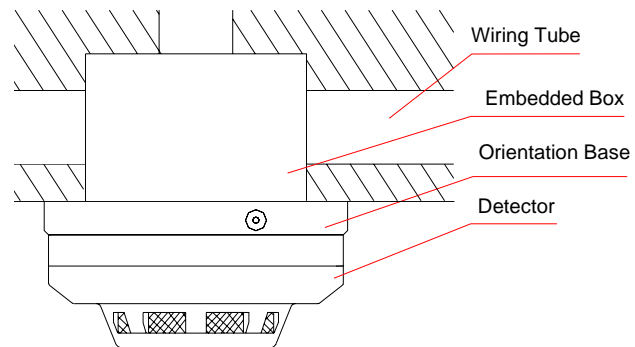

Fig. 2
1. Mounting of the detector is shown in Fig. 2.